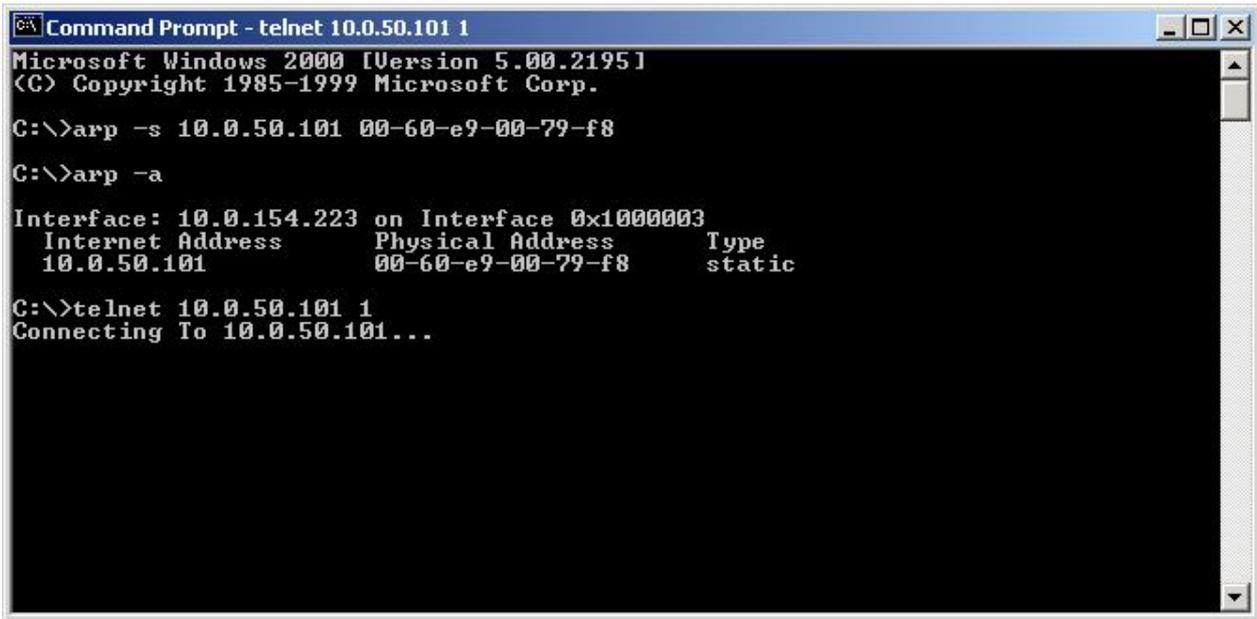

Figure 3.29. Assigning a new IP address by ARP command
Step2: Change to new IP via telnet port 1 (ref Figure 3.29)